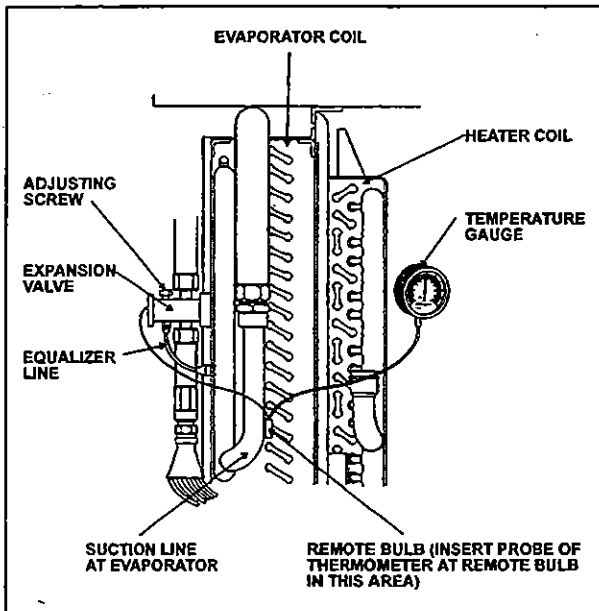

Figure 27: Superheat Adjustment Installation 22046
The easiest method of adjusting the superheat is to backseat the main evaporator expansion valve adjusting screw, and screw in 5-1/2 turns clockwise (refer to Fig. 27). If this method does not provide an accurate superheat, the following procedure should be followed:
3. Install a remote reading thermometer to the evaporator outlet line near the existing remote bulb (refer to Fig. 27).